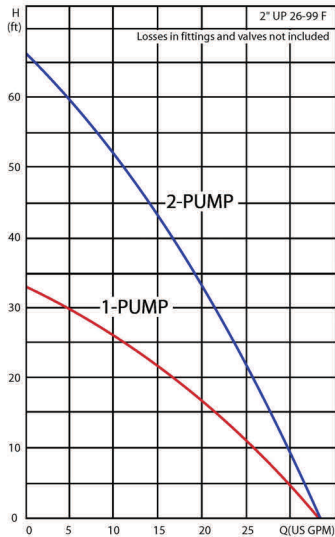

Fig. 1.
The Multizone is designed to work with up to four heat pumps or four heat pump circuits. Each pumping circuit shall be checked with the performance curves (See Fig. 1,2 & 3). To ensure adequate flow, the selection must be based on your specific system design.
1. By using the flow meter tool, monitor the flow (GPM) being pumped through the entire system. If the flow is not correct, check that the proper flow center has been selected for the application using curves from Fig. 1 and 2. If the pump curve indicates the proper flow center was installed and the GPM is less than the system requires, an obstruction in the system is restricting flow.